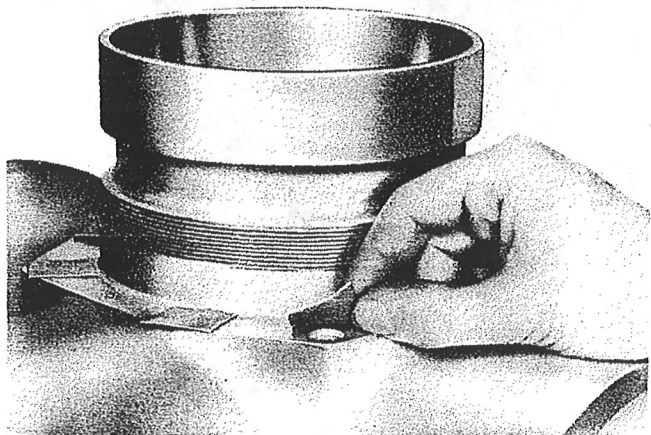

Figure 48—Covering Hub Transfer Ports
(4) Lift the regulator off the hub of the propeller. The regulator has a close fit to the hub and will bind if cocked or tilted. If the regulator binds, tap it back in place, using the hands or a soft-faced mallet. Do not pry the regulator.
(5) Remove the transfer seals from the hub.
(6) Cover the transfer ports of both the hub and regulator with masking tape. (See figures 48 and 49.) This is done to prevent dirt from entering the hydraulic system.